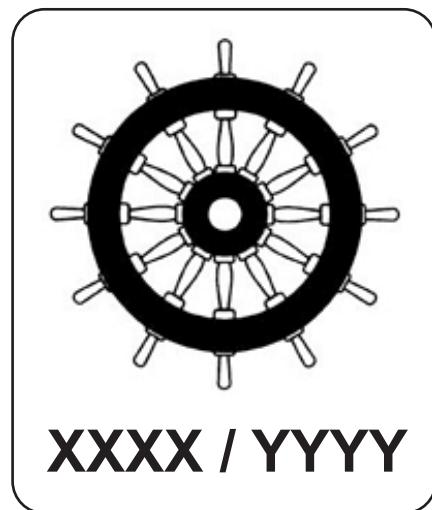

FIGURE 401
- 1.5.3 The 'Wheelmark' must be completed as shown in FIGURE 401. The four 'X' digits, denote the product's Notified Body for Quality conformance. This number is recorded on the raft's declaration of Conformity (amid the Module D quality conformance data).